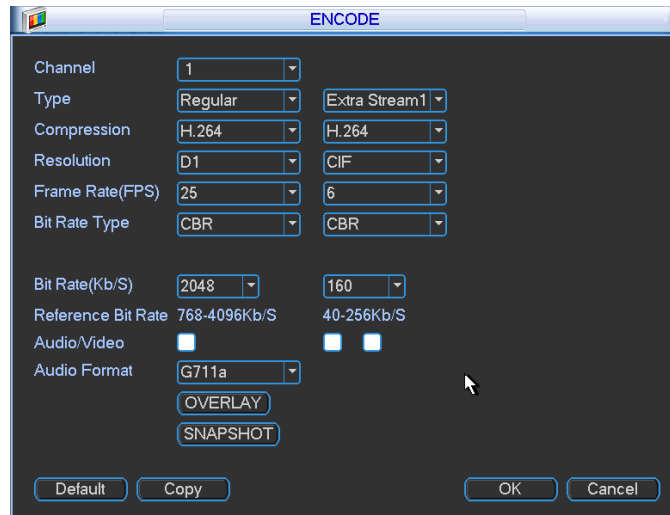
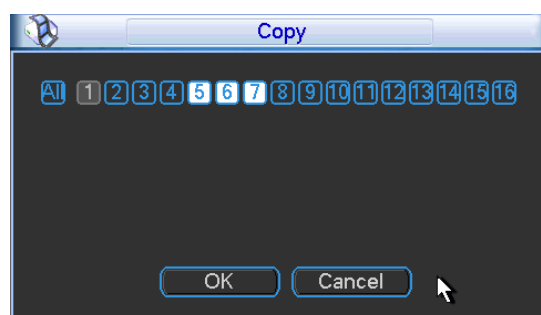
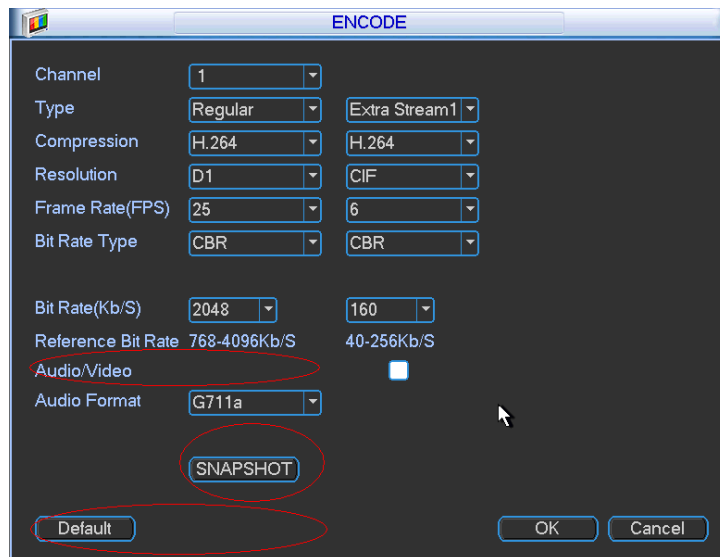

Figure 6-23
Figure 6-25
Figure 6-26
Encode setting includes the following items. See Figure 6-23.
- ✧ Copy: After you complete the setup, you can click Copy button to copy current setup to other channel(s). You can see an interface is shown as in Figure 6-25. You can see current channel number is grey. Please check the number to select the channel or you can check the
box ALL. Please click the OK button in Figure 6-25 and Figure 6-23 respectively to complete the setup. Please note, once you check the All box, you set same encode setup for all channels. Audio/video enable box overlay button and the copy button is shield. See Figure 6-26.